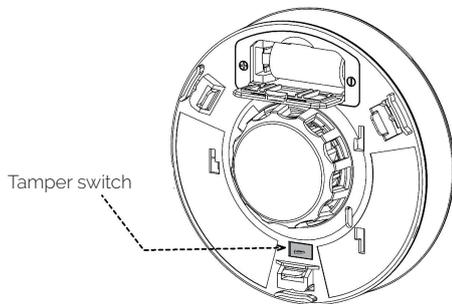

Figure 11: Tamper switch location
TAMPER ALARM: When the bracket is uninstalled, the tamper switch is opened, the tamper alarm will sound, the tamper switch location as shown in Figure 11. The tamper alarm pattern is two (2) long alarm sirens with two (2) corresponding flashes of the yellow LED.